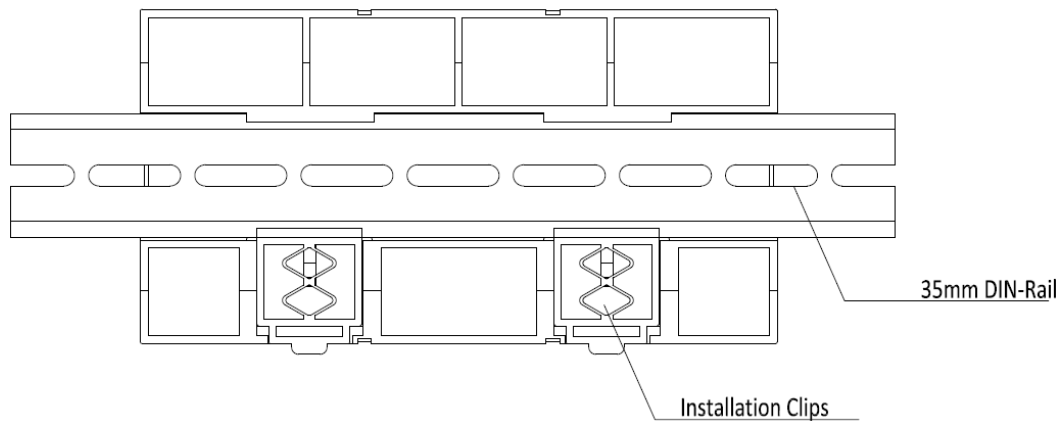

Figure 2-3 PMC-509's Installation Clips
- Move the Installation clips at the back of the PMC-509, as shown in Figure 2-3, downward to the “unlock” position